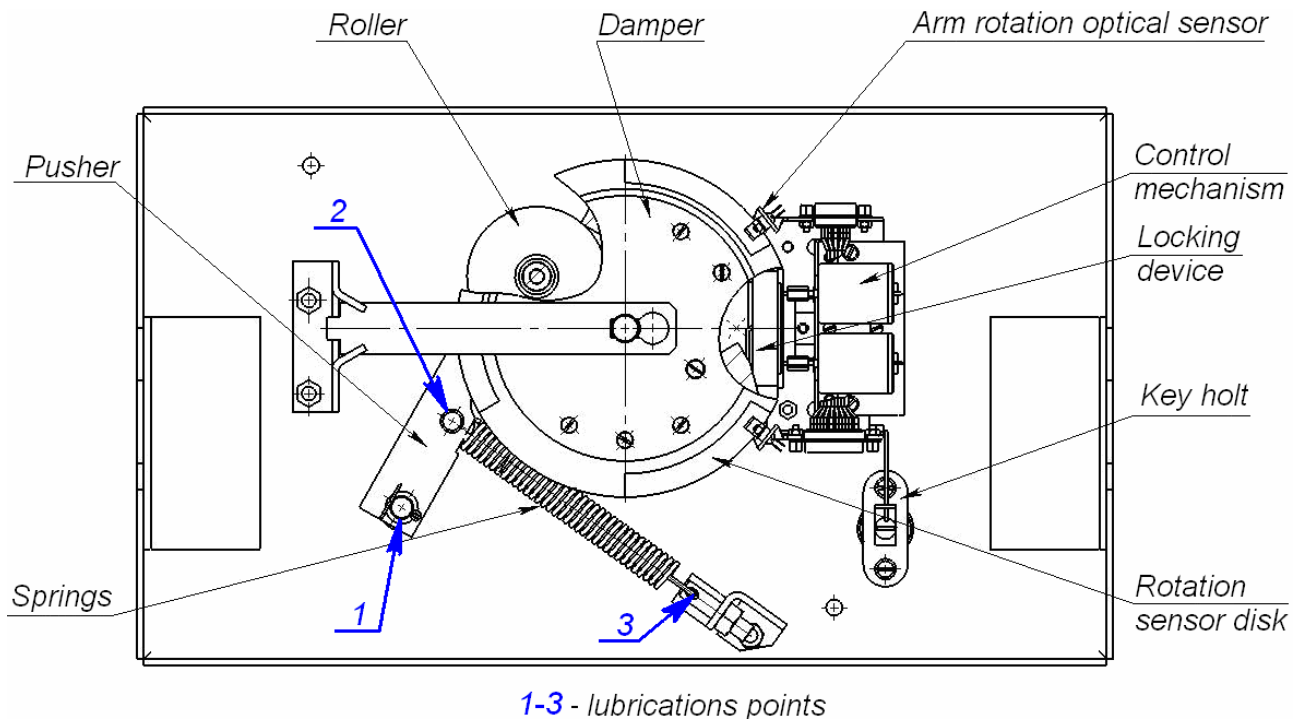

Fig. 15. Interior components of the TB-01 turnstile mechanism
2. Remove the turnstile top cover (3) from the turnstile housing as described in Section 6, lay the cover on a flat steady surface;
3. Inspect the resetting mechanism (a pusher, springs and a roller), optic sensors and a damper (Ref. Fig. 15).
- four bushes of the resetting mechanism (two – on the rotation axis of the pusher, two – on the fastening axis of the springs) as well as holes in the fastening parts of the springs); 2-3 drops of oil in each lubrication point (lubrication points are marked in Fig. 15); avoid ingress of lubricant on the rotation sensor disc and the roller surfaces;
- lock cylinders of the mechanical release lock (7) and top cover lock (4) from a side of the keyhole.
7. Check reliability of the barrier arm (5) fastening, to do so:
- unscrew the cover (6) screw M4×25 with a screw driver and take off the cover;
9. Return the top cover (3) into its operating position (Ref. Section 6); mounting of the housing top cover does not need much efforts: the top cover lock locks by pressing the lock cylinder without turning the key.